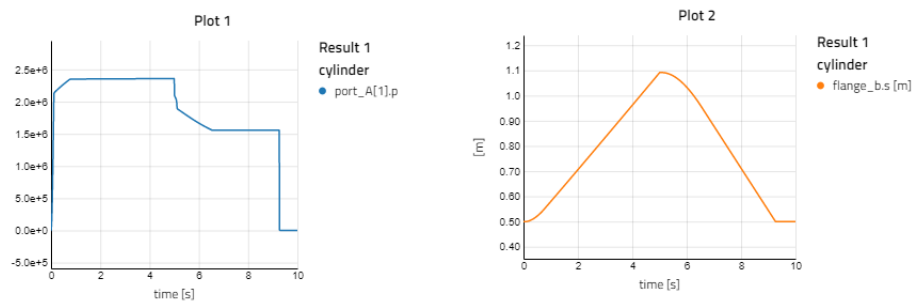

Figure 7 Plotting the cylinder pressure and flange position
3. Drag and drop the *p* variable to the *Model canvas* to plot it. Similarly, find and plot the cylinder flange position (*cylinder.flange\_b.s*) as shown in **Figure 7**.